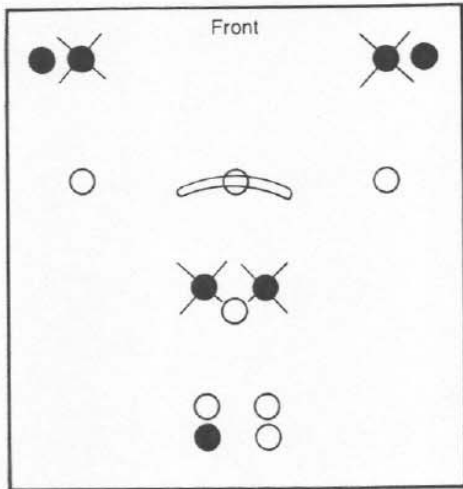

FIGURE 1
1. Remove indicated bolts [] from cabinet. (Fig. 1)